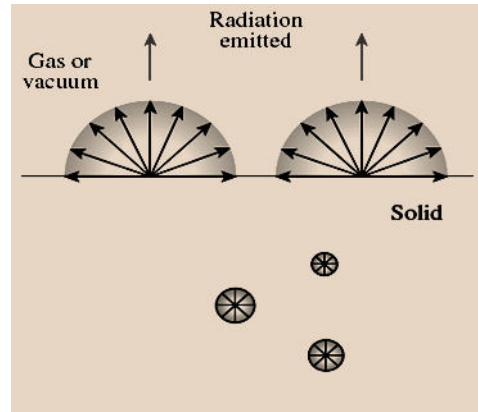

Fig. 5.6 Radiation in opaque solid
- Radiation in opaque solid is considered a surface phenomenon since the radiation emitted only by the molecules at the surface can escape the solid as shown in figure 5.6.